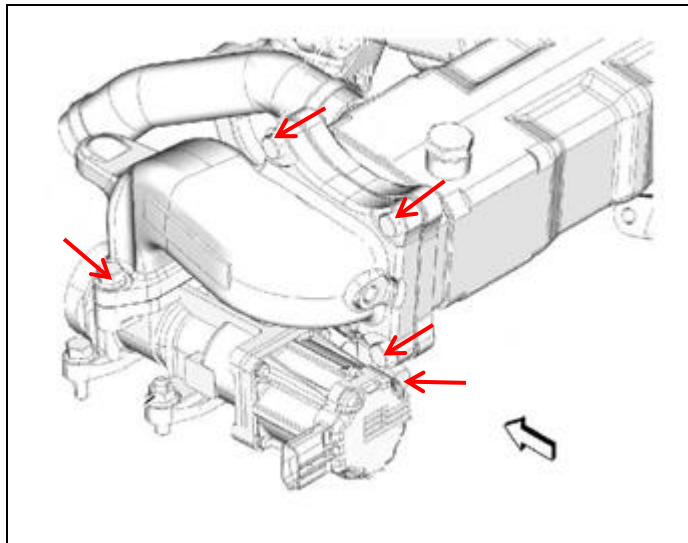

Figure 19
24. Install the EGR Cooler Duct and EGR Temperature Sensor 2 assembly. Plug in the EGR Gas Temperature Sensor 2 connector to the harness. Torque the bolts holding the EGR Cooler Duct to the EGR Valve to 23.5 Nm (17.3 lb-ft). Torque the bolts holding the EGR Cooler Duct to the EGR Cooler to 28.4 Nm (21 lb-ft). Torque the bolt holding the EGR Cooler Duct to the Cylinder Head to 48 Nm (35 lb-ft). (Figure 19.)